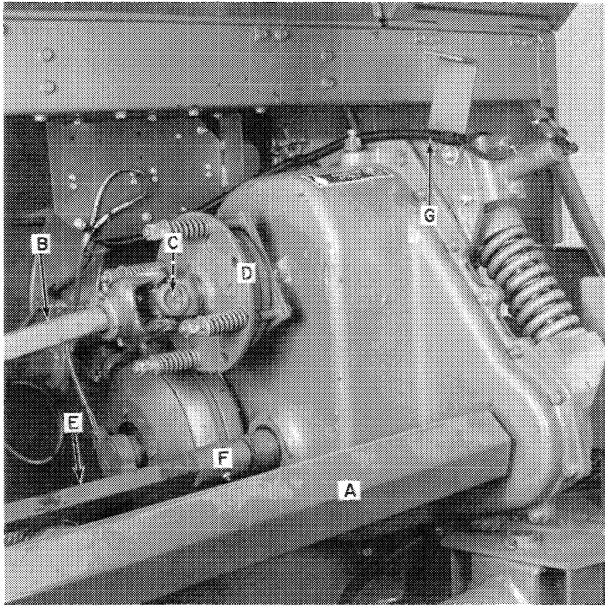
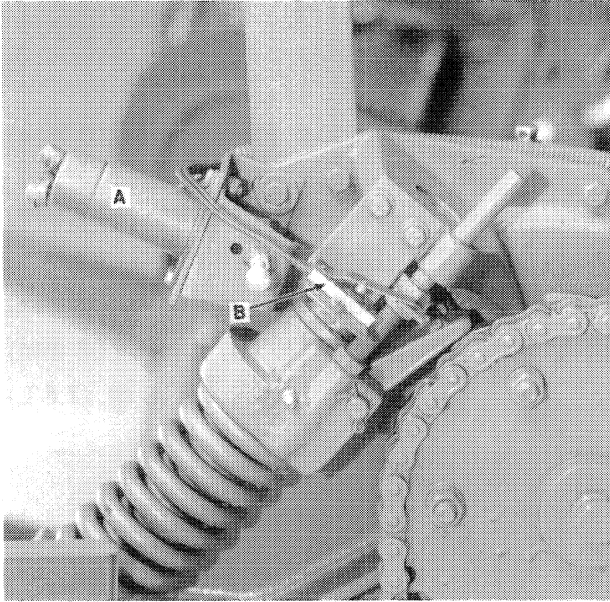

FIGURE 2-21
FIGURE 2-23
4. Remove the attachment drive shaft shield, A, Figure 2-21, and the drive shaft under it.
2. Remove the attachment drive shaft shield, A, Figure 2-21. Remove the attachment drive shaft.
3. Remove the upper feed roll drive shaft, B, Figure 2-21. Remove the snap ring or cap screw, C, holding the upper feed roll drive shear bolt hub or slip clutch, D. Remove the hub or slip clutch assembly.
4. Remove the lower feed roll drive shaft, E, Figure 2-21. To remove the shaft, it may be necessary to remove paint from the shaft, E, to be able to slide coupler, F, to the right.
5. Metal Detector only - Disconnect the wire harness, G, Figure 2-21, from the stopping system solenoid, A, Figure 2-23. Remove the pawl switch, B, Figure 2-23.